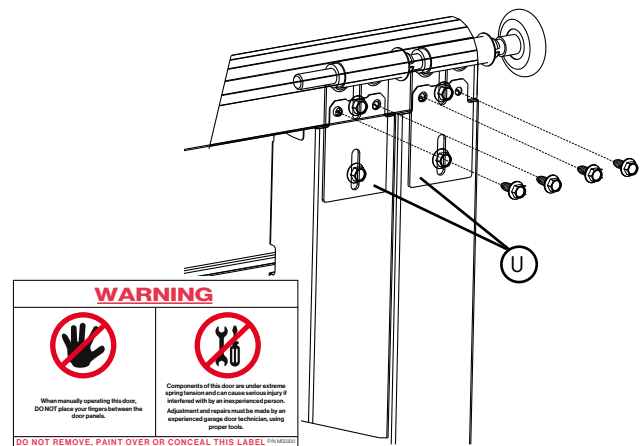

Fig: 3.2.4
- f) Once the top panel is in place and adjusted to vertical the additional locking fixings in the top hanger must be added. Fig 3.2.4.